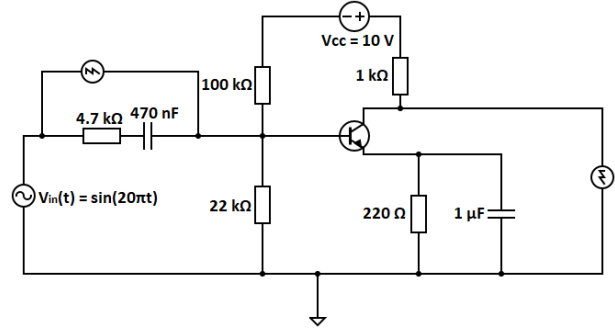

Fig. 1: Single-Stage Common Emitter Amplifier Circuit.
The schematic diagram of the circuit is shown in Figure 1.
- 1) **Assemble the Circuit:** Using the components available, construct the Single-Stage Common Emitter Amplifier as illustrated in Figures 1 and 2.
- Change the oscilloscope connection to observe the output signal at the right side of the circuit (after the coupling capacitor), as shown in Figure 1. Remember to ensure proper grounding after reconnection.